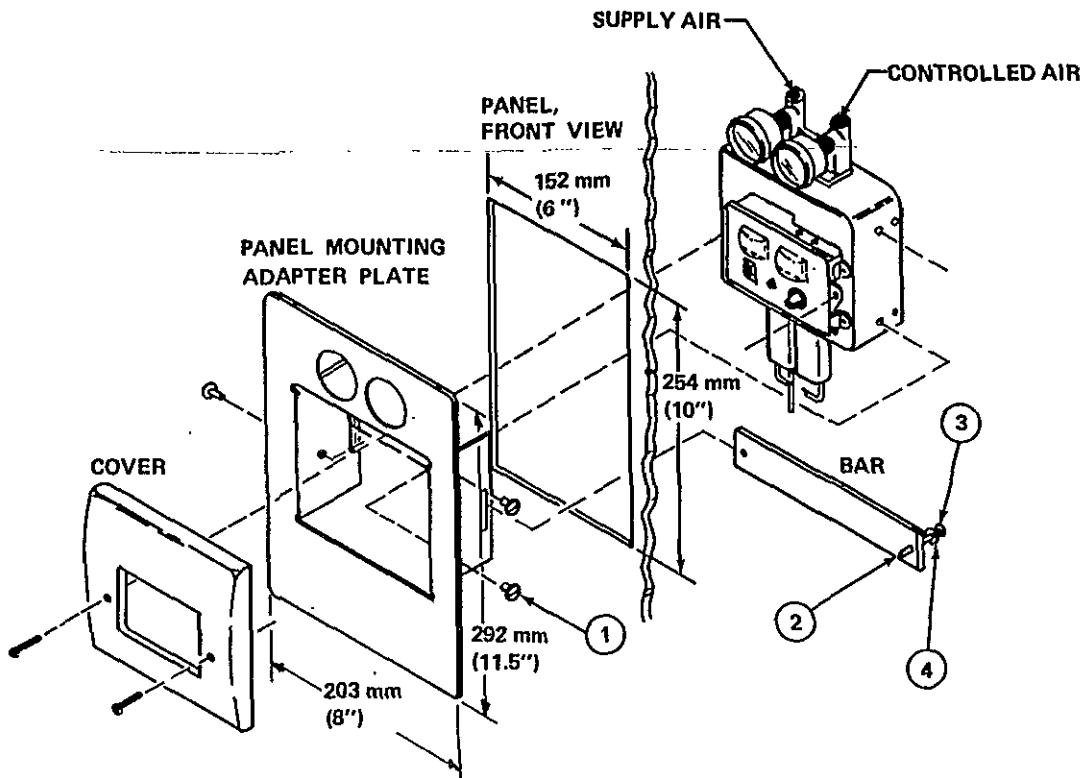

Figure 2- Mounting with Panel Mounting Adapter.
1. Cut 6 x 10-inch hole in panel. See Figure 2.